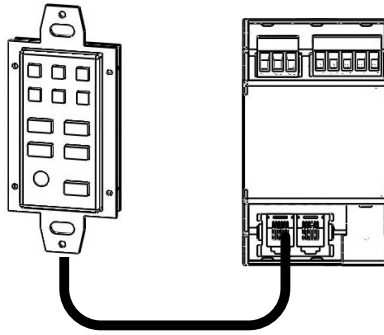

Figure 5
**4.1 CS-Bus Wiring Directions (Single Controller to Single Interface Device).** (See Figure 5 below.)